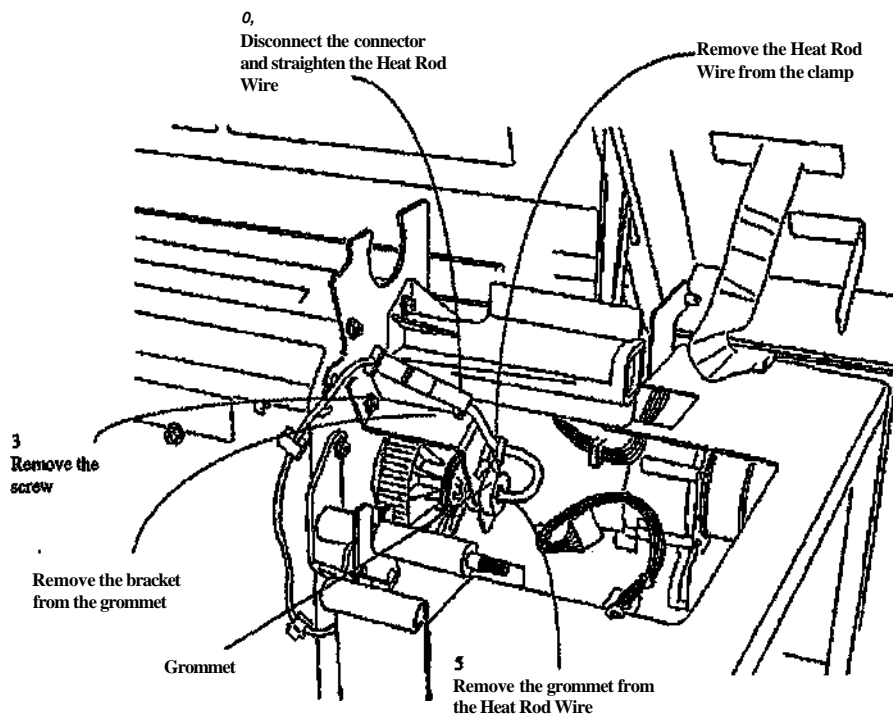

Figure 1. Removing the Bracket and Grommet (Right Side)
3. (Figure 1): Disconnect the Heat Rod (Right Side).